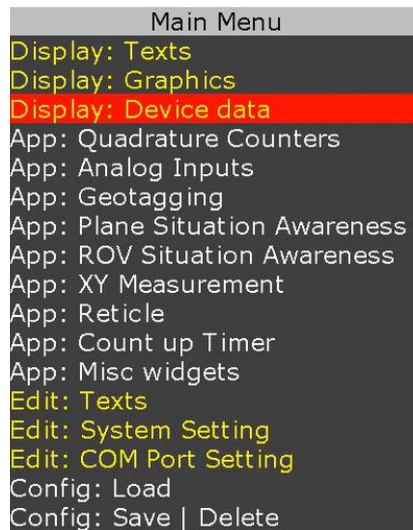
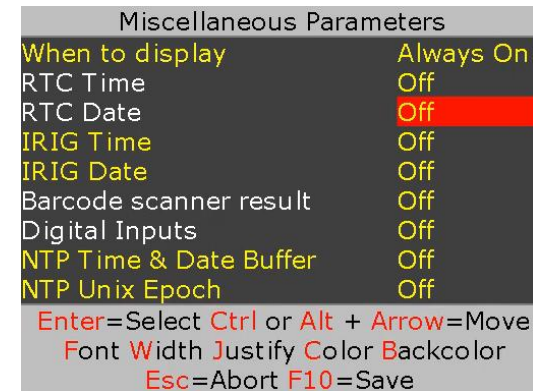

Figure 3
Figure 5
2. Follow Figure 3 - Figure 5 to insert the desired parameter
3. On Figure 5, use  $\updownarrow$  arrow keys to select “RTC Time”